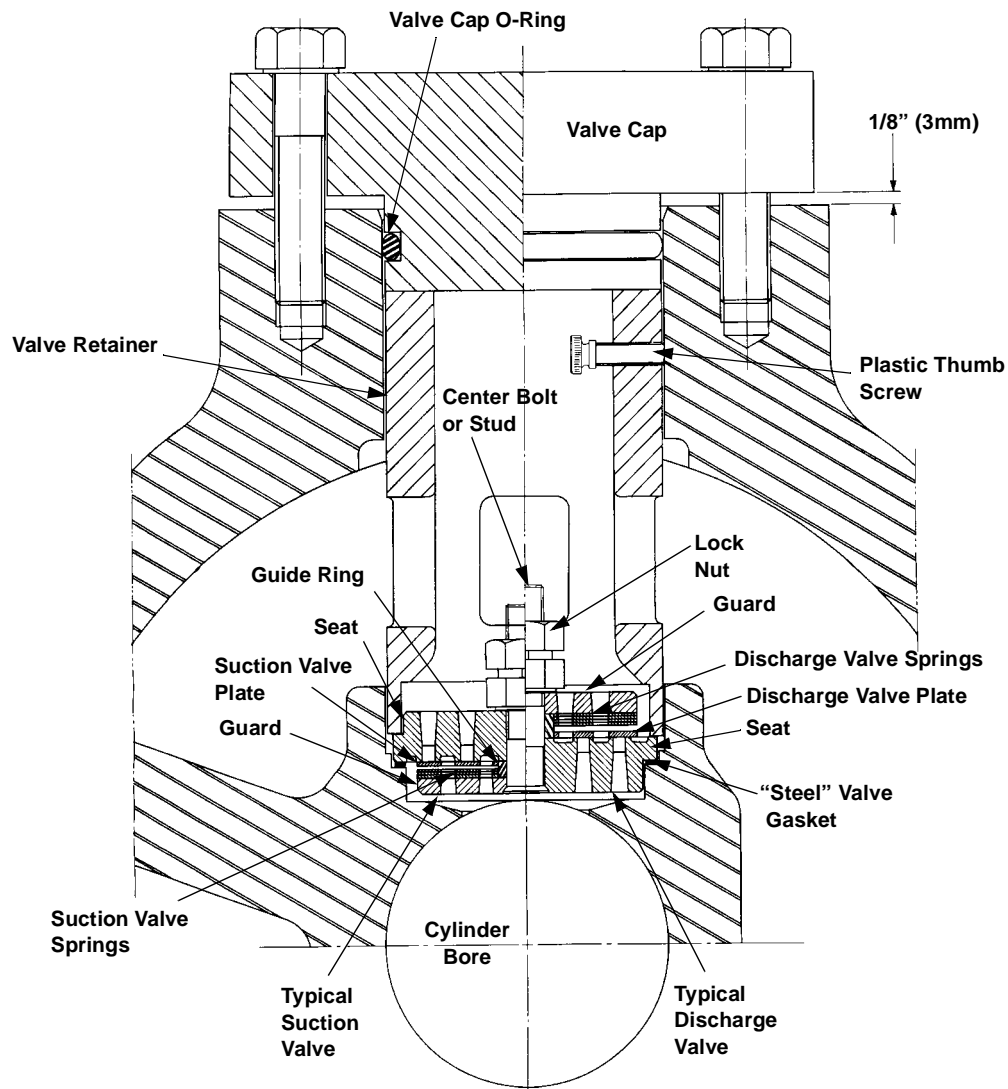

FIGURE 5-18: TYPICAL VALVE ASSEMBLIES
1. Slightly loosen all of the bolts on each valve cap. With all the bolts loose, the cap should stay in its original position. If it pushes out on its own accord-stop! Take steps to completely vent the cylinder. See Caution above. A typical valve assembly is shown in Figure 5-18: on Page 5-33.